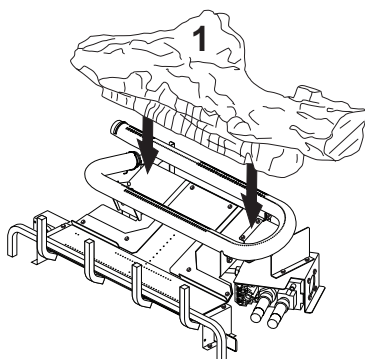

Figure 30 - Installing Log #1
1. Place rear log (#1) on base assembly as shown in Figure 30. Log will fit over right end of burner and rest in middle of U-burner.